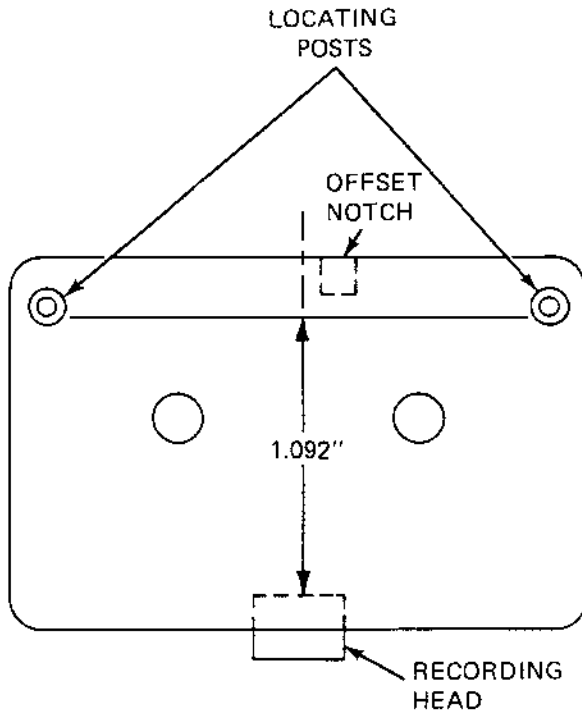
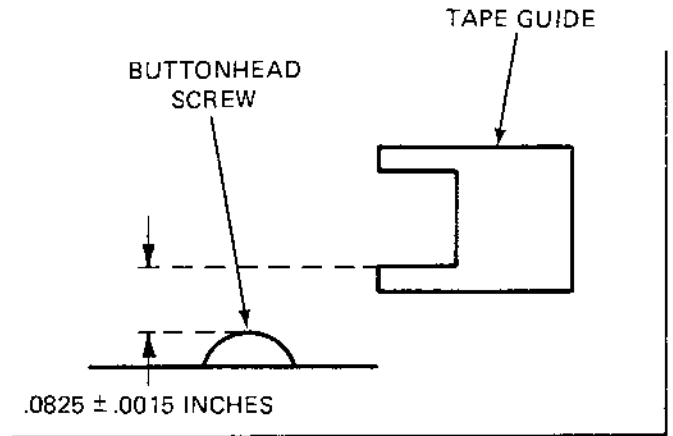

Figure 16. Head Penetration Alignment
Figure 17. Tape Path Alignment
5. Two dimensions are important to the mini-cassette positioning within the transport. The first is the penetration of the head into the mini-cassette cavity, 1.092 inches. (Refer to figure 16.) The second dimension, $.0825 \pm .0015$ inches references the tape path within the mini-cassette to the tape guides. (See figure 17.) These dimensions can be checked if head penetration or mini-cassette positioning is a problem.